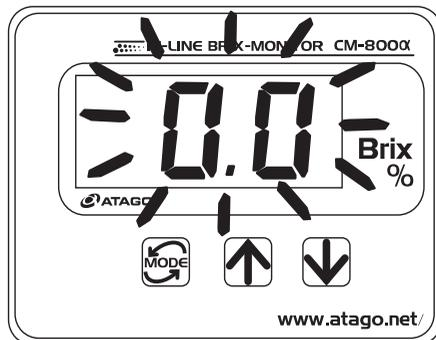

Fig.12-2 Example of the adjustment to the Brix 0.0%
- ⑤ When the Brix(%) value blinks, adjust the value to 0.0% for distilled water or to the true value for the reference sample by using the  and/or  keys (Fig.12-2).